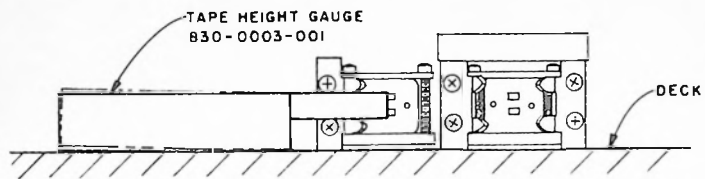

FIGURE 5-13
- the tape guide as shown in Figure 5-13. The gauge should advance fully into the tape guide, without friction, while resting flat on the deck—not tilted as shown by the dashed line (or its opposite) in Figure 5-13. The tape height gauge should be demagnetized so that it will not effect the “heads.”)
3. Keeping the Tape Height Gauge flat on the deck, position the tape guide as shown in Figure 5-13.